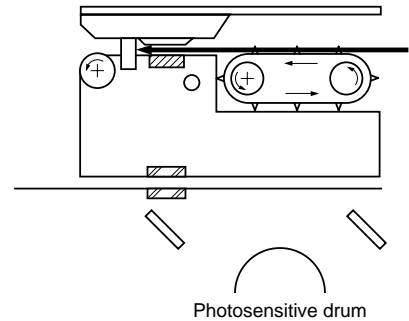

Figure 3-806
- 2 The stepping motor (C.F.F. motor PM1) rotates clockwise to move the continuous paper in normal direction. (Figure 3-806)